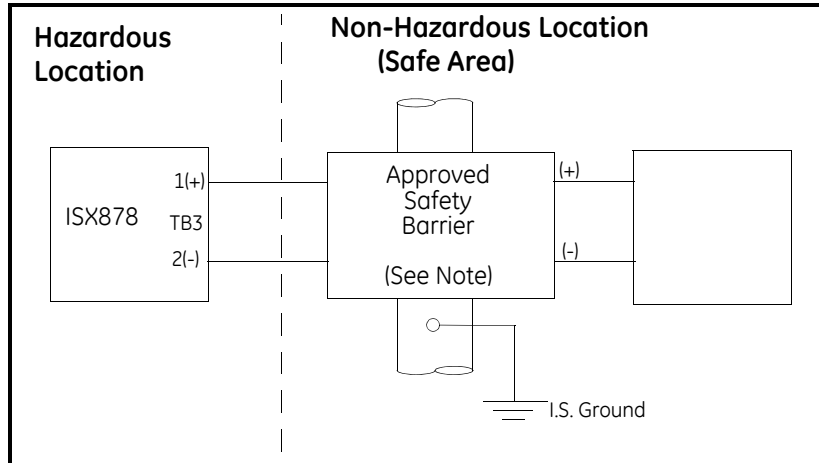

Figure 1-3: Power Lead Connection to Safety Barrier
6. Connect the two power leads to the safety barrier, as shown in Figure 1-3 on the next page. Barriers must be installed in accordance with the barrier manufacturer’s specifications.